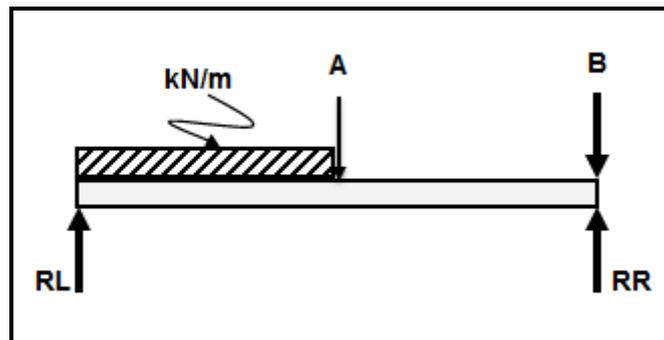

FIGURE 4.9
4.9 Identify the type of beam in FIGURE 4.9 below.